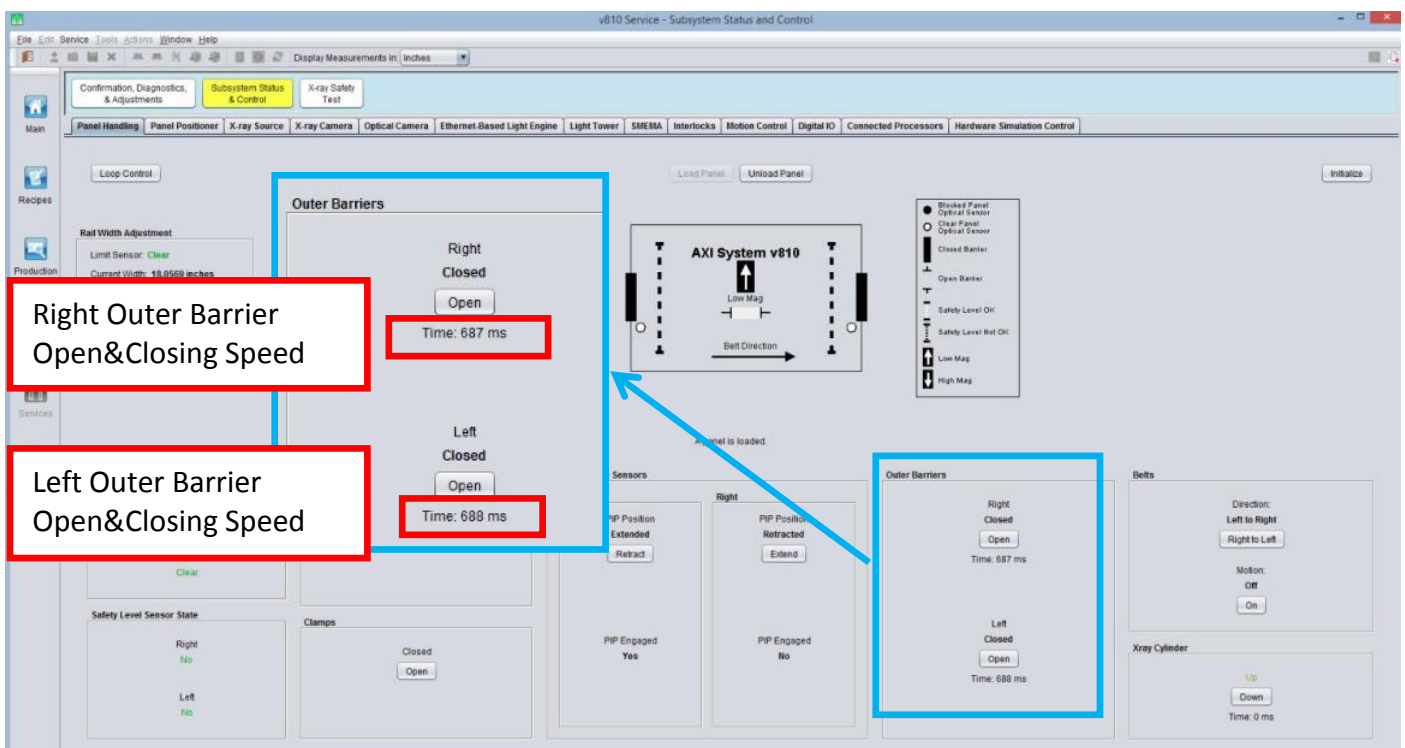

Figure 26
35. Open & Close particular Outer barrier .Record down Opening & Closing duration as below Figure 26